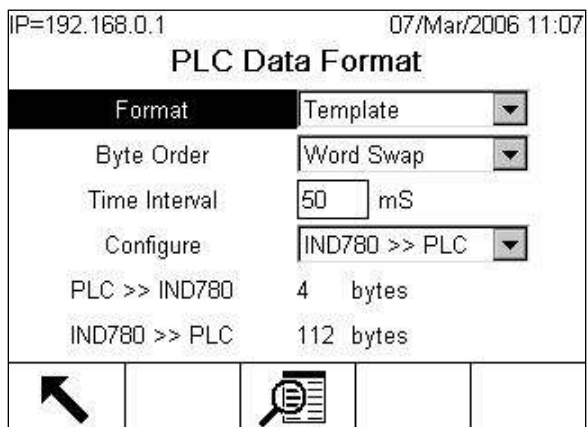

Figure 1-8: PLC Data Format Screen
1. In setup, select **Communication > PLC Interface > Data Format**. Figure 1-8 shows the screen with Template selected as the format, revealing the Time Interval, Configure, and directional displays. When Application format is selected, only the Format box appears on this screen.
5. The bottom of this screen (Figure 1-8) displays the number of bytes that will be sent by the IND780 and the number of bytes expected from the PLC.